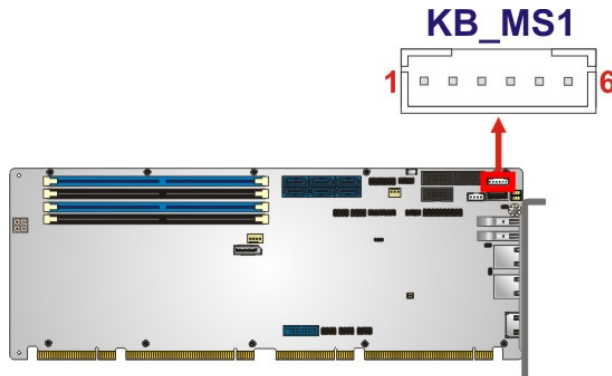

Figure 3-14: Keyboard and Mouse Connector Location
- CN Location:** See Figure 3-14